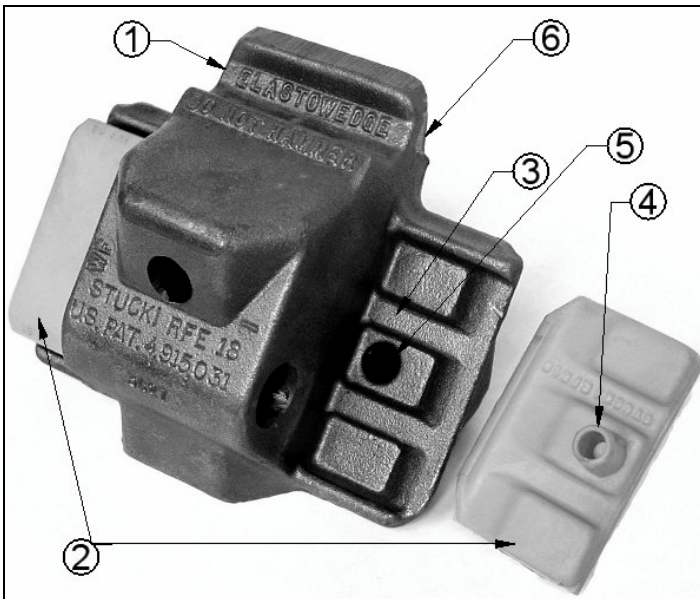

Figure 1
The RFE-18 assembly, shown in Figure 1, consists of an austempered ductile iron heat-treated wedge element ① with a pair of resilient urethane pads ② affixed to the sloped wings of the wedge. The resilient pads are interlocked to the iron wedge by means of transverse ribs ③ and tapered posts ④ that are tightly retained by tapered holes ⑤ on the wedge slopes. Along each edge of the vertical (wearing) face of the wedge are indicator grooves ⑥, to indicate the allowable wear limit. The components of the RFE-26 element are virtually identical except for the wider casting wings and wider resilient pads.